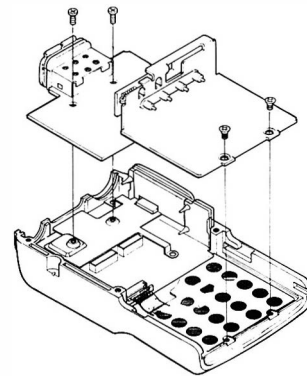

Figure 3.
- Referring to Fig. 3, remove the two screws from the metal Sub-Panel, and lift the unit out and set it aside.